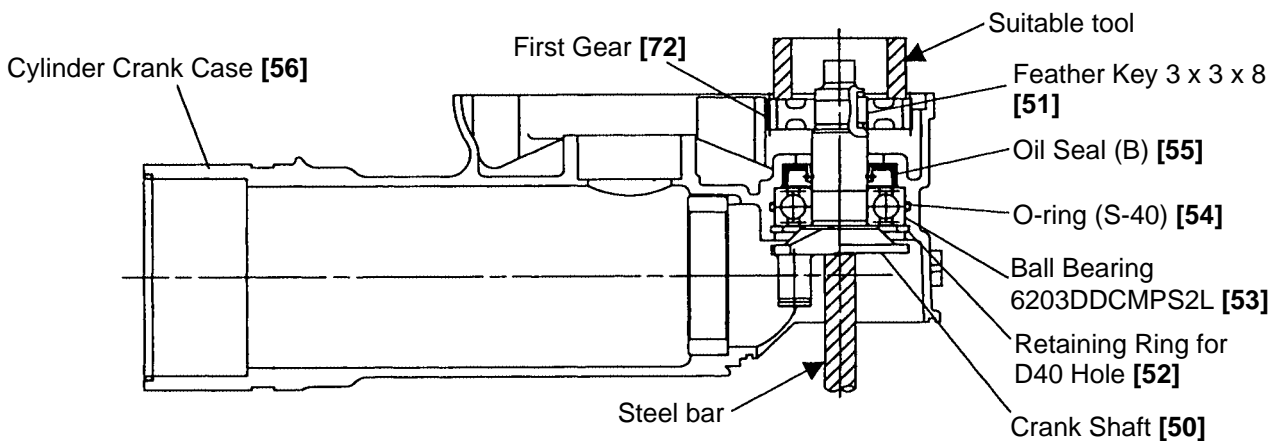

Fig. 16
(1) Reassembly of the first gear and the crank shaft
Press-fit Oil Seal (B) [55] into the Cylinder Crank Case [56] and mount O-ring (S-40) [54]. Press-fit the Ball Bearing 6203DDCMPS2L [53]. Mount the Retaining Ring for D40 Hole [52] using a retaining ring puller. Press-fit the Crank Shaft [50] into the Ball Bearing 6203DDCMPS2L [53]. Put the Feather Key 3 x 3 x 8 [51] in the groove of the Crank Shaft [50] and press-fit the First Gear [72] with a suitable tool while holding the flat portion of the Crank Shaft [50] with a steel bar. Before press-fitting, make sure that the Feather Key 3 x 3 x 8 [51] fits in the key groove of the First Gear [72] (Fig. 16).